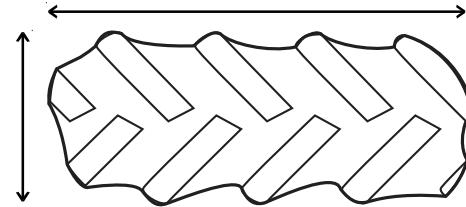

Figure 15. Tire contact area or footprint. The larger the area of contact, the lower the weight applied to a given area of soil.
- The more tire or track area touching the soil, the lower the pressure on the ground. Distributing the load over a greater area by increasing the contact or footprint reduces the risk of soil compaction and rutting (**Figure 15**).